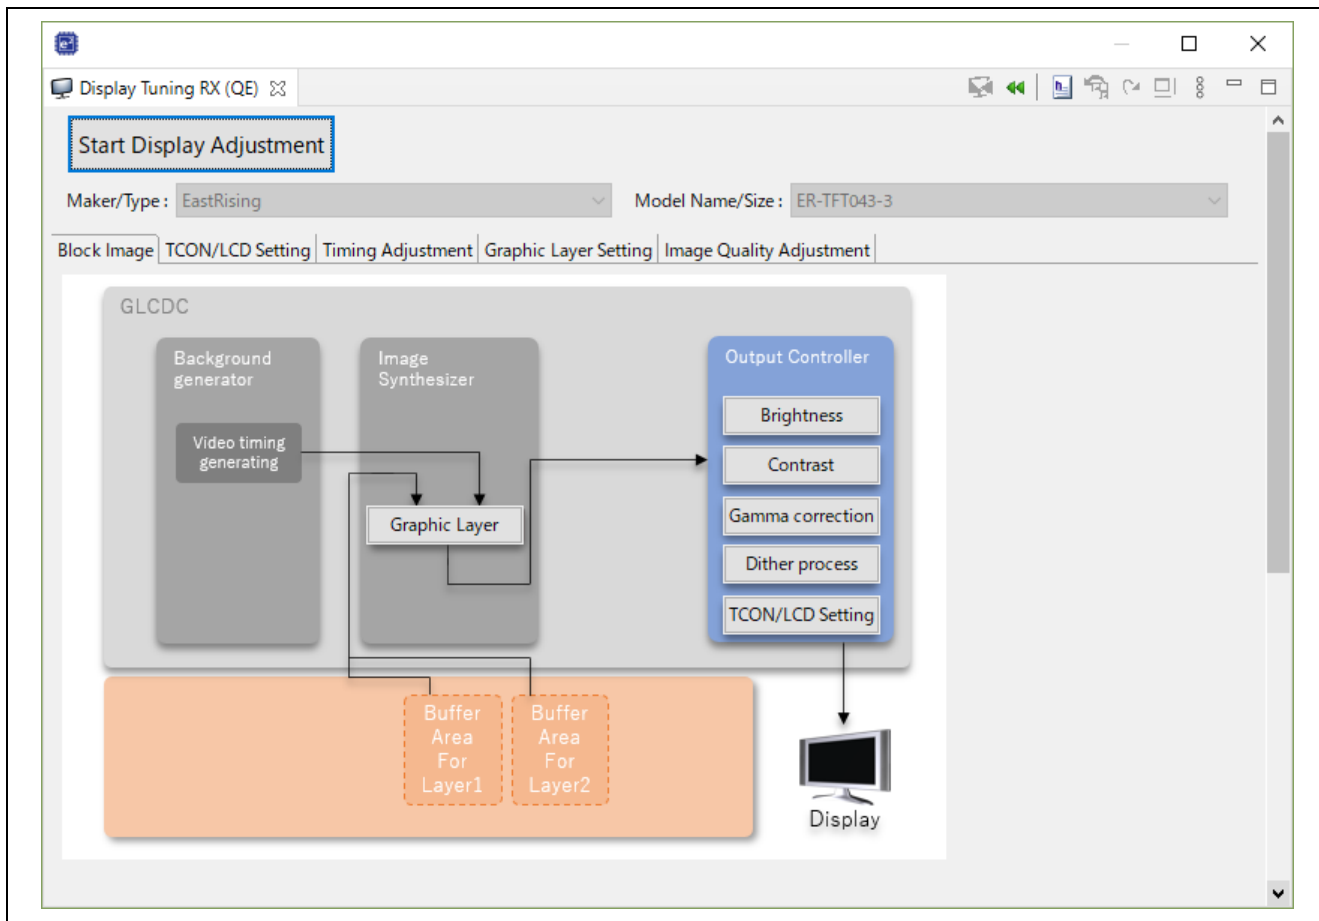

Figure 6-2 “Display Tuning RX (QE)” View
After a project has been selected in “1. Selecting a project” in the workflow diagram of QE for Display [RX], selecting “Renesas Views” -> “Renesas QE” -> “Display Tuning RX (QE)” from the menu of the e2 studio opens the “Display Tuning RX (QE)” view of QE for Display [RX] (Figure 6-2).
Figure 6-2 is the display of a block diagram of the hardware of the GLCDC, showing the path for the output of image data and the relationships between the positions where images are to be corrected. Clicking on “Brightness” or “Contrast” for the adjustment of image quality produces the “Image Quality Adjustment” tabbed page, which allows various adjustments.